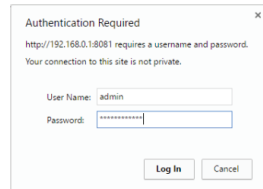

Figure 17: xPicoWiFi Login Dialog Box
6. A dialog box will appear. Type “admin” in lower case in the User Name box and the full MAC/Serial # without dashes (e.g. 0080A3AB01C8) in the Password box. Click on Log In button. See Figure 17.